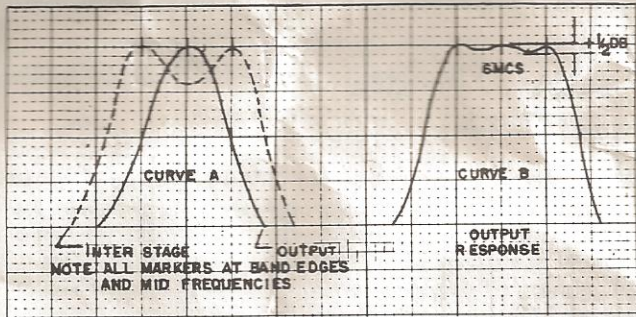

Figure 7. Response Data
4. Align L-3 and L-4 (Figure 5) to control frequency and tilt of the double tuned interstage until the observed output is similar to curve B (Figure 7). Curve A (Figure 7) shows the combined effect of both the double tuned interstage and the single tuned output stage in determining the flat overall response of the amplifier.
6. Align L-6 (Figure 5) essentially to mid to restore any tilt in observed output curve B (Figure 7) caused by adjustment of BANDWIDTH control in step 5.
7. Align L-7 (Figure 5) to correct either a hump or a valley in the observed output curve B (Figure 7).